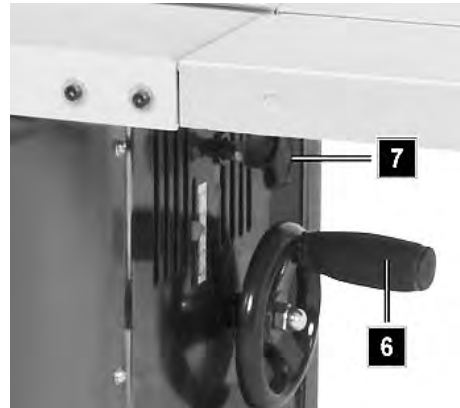

Fig. 14: Setting the working depth
Step 1: Turn the handle (item 6, Fig. 14) to adjust the spindle height and therefore the milling cutters to the required height.
Step 2: Secure the spindle in position by tightening the clamping screw (item 7, Fig. 14).